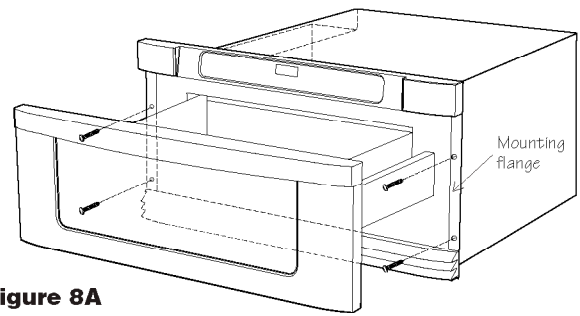

Figure 8A
3. Slide the drawer all the way until the mounting flange is flush with the face of the cabinet. See Figure 8A.
4. Open the drawer. Using the 4 holes on the drawer as a template, pre drill the cabinet using a 1/16" bit. See Figure 8A.